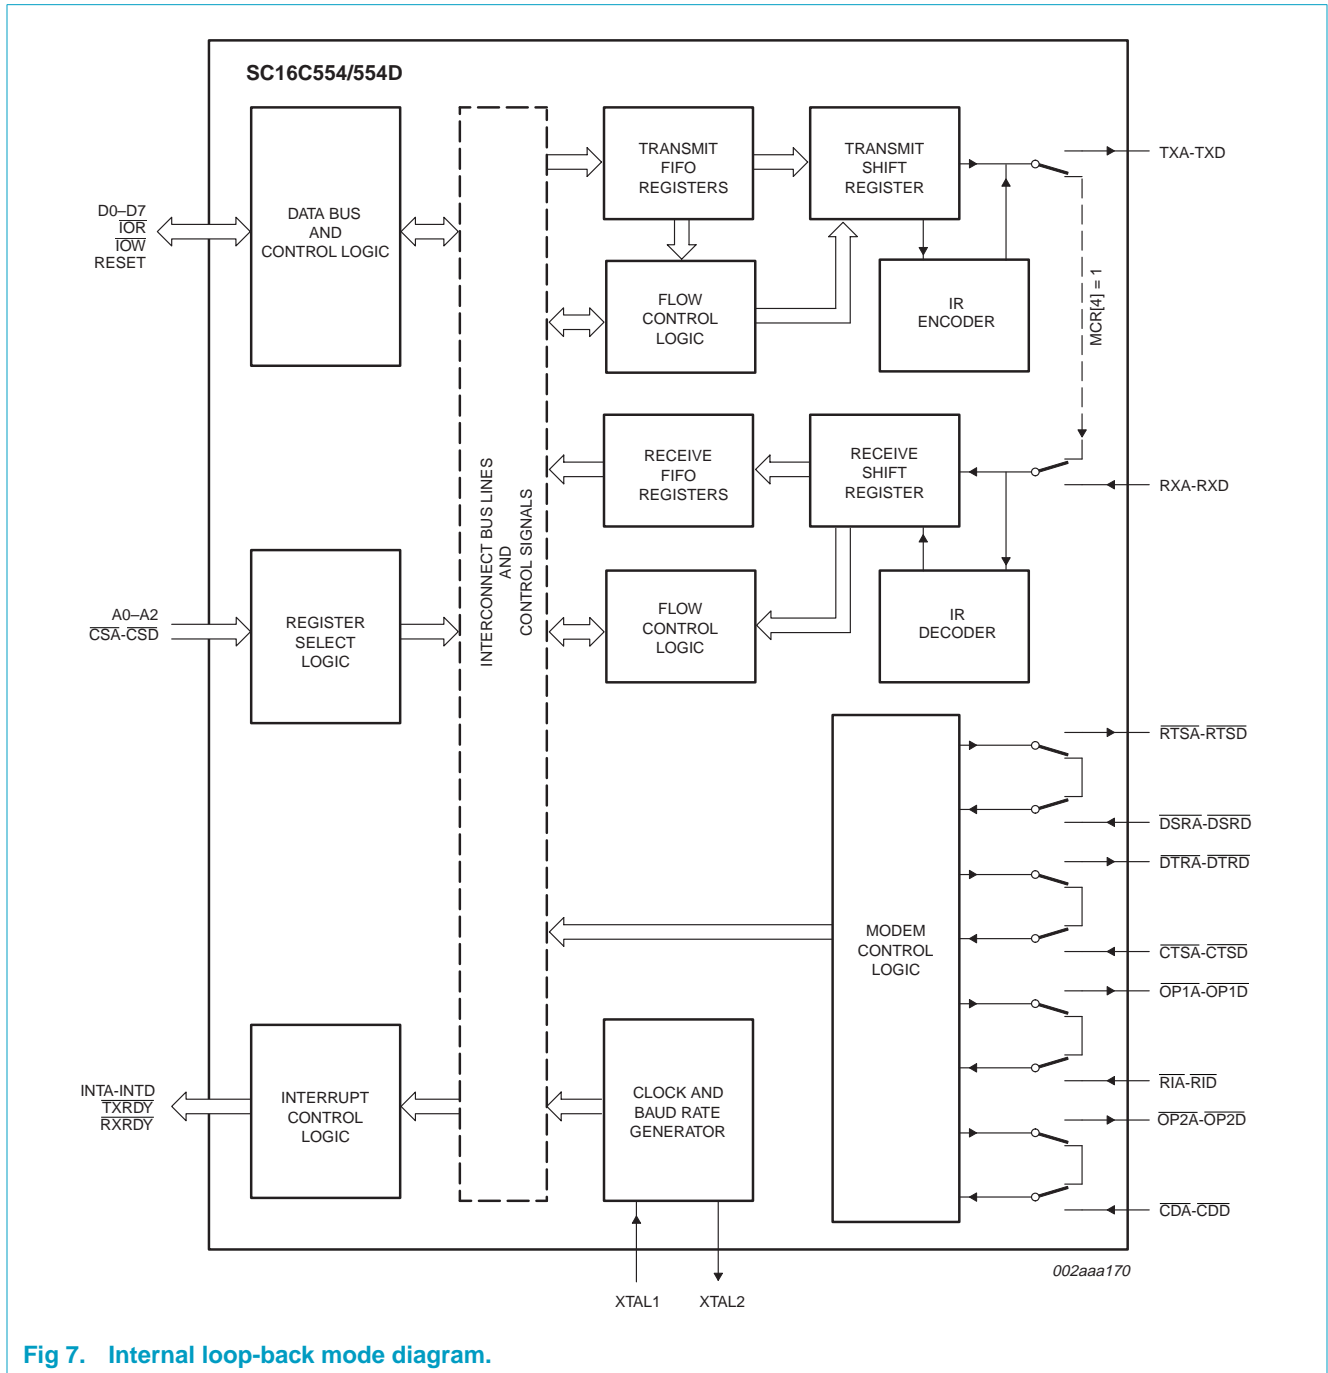

Fig 7. Internal loop-back mode diagram.
The internal loop-back capability allows on-board diagnostics. In the loop-back mode, the normal modem interface pins are disconnected and reconfigured for loop-back internally. MCR[0-3] register bits are used for controlling loop-back diagnostic testing. In the loop-back mode, $\overline{OP1}$ and $\overline{OP2}$ in the MCR register (bits 2-3) control the modem \overline{RI} and \overline{CD} inputs, respectively. MCR signals \overline{DTR} and \overline{RTS} (bits 0-1) are used to control the modem \overline{CTS} and \overline{DSR} inputs, respectively. The transmitter output (TX) and the receiver input (RX) are disconnected from their associated interface pins, and instead are connected together internally (see Figure 7). The \overline{CTS} , \overline{DSR} , \overline{CD} , and \overline{RI} are disconnected from their normal modem control input pins, and instead are connected internally to \overline{DTR} , \overline{RTS} , $\overline{OP1}$ and $\overline{OP2}$. Loop-back test data is entered into the transmit holding register via the user data bus interface, D0-D7. The transmit UART serializes the data and passes the serial data to the receive UART via the internal loop-back connection. The receive UART converts the serial data back into parallel data that is then made available at the user data interface D0-D7. The user optionally compares the received data to the initial transmitted data for verifying error-free operation of the UART TX/RX circuits.